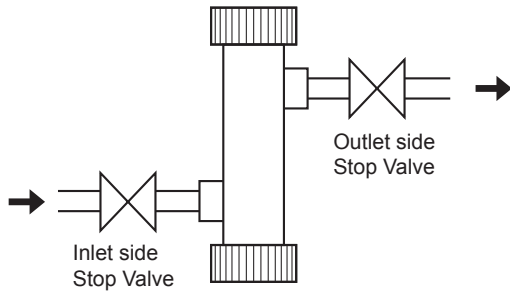

Figure 3.1 Process Piping of Flow-through Type Holder.
- (1) Close the valves to shut off the (low of measured solution (see Figure 3.1) - first in the inlet then the outlet valves in the flow-through type holder.